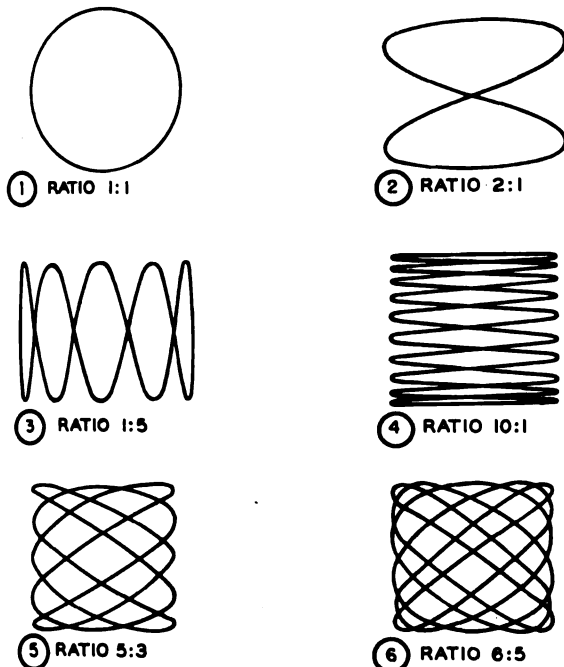

Figure 4. Lissajous figures for various frequency ratios.
(1) Start the oscilloscope as explained in paragraph 10.
(2) Turn the BEAM switch and COARSE FREQUENCY control to OFF and connect the standard frequency source between the X SIGNAL INPUT and GROUND terminals.
(3) Turn the BEAM switch ON and adjust the X GAIN control until a convenient horizontal deflection is obtained on the screen.
(4) Connect the unknown signal between the Y SIGNAL INPUT and GROUND terminals.
(5) Adjust the attenuator switch and Y GAIN controls until a pattern of convenient shape is seen on the screen. This pattern is called a Lissajous figure. Typical patterns are shown in figure 4.